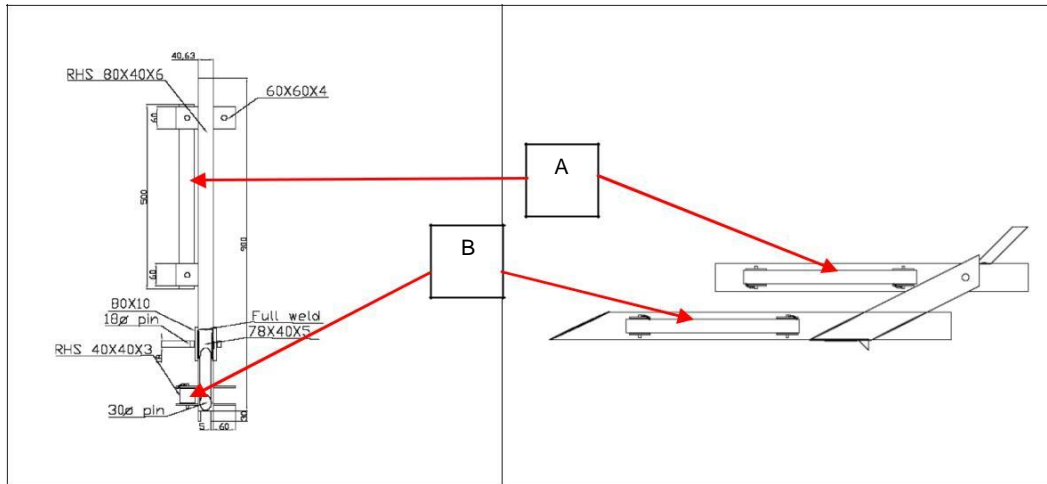

Figure 3: Folding connection bars
2.6 The PVB has two folding bars (A and B) in Figure 3 on each side for a solid and secure connection between the elements, one to another. One arm is installed on the upper side of the barrier perpendicular to a second arm installed on the exterior (far angle) of the horizontal section of the body of the PVB (A) in Figure 3. The other arm is on the lower side of the barrier connecting the lower sections of the PVB together (B) in Figure 3.